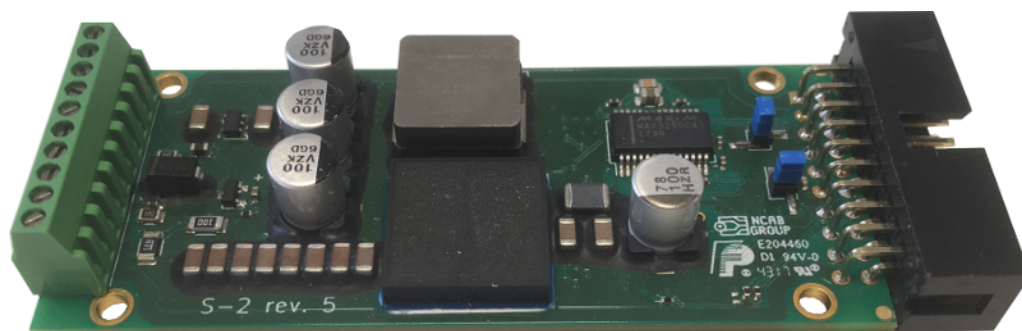
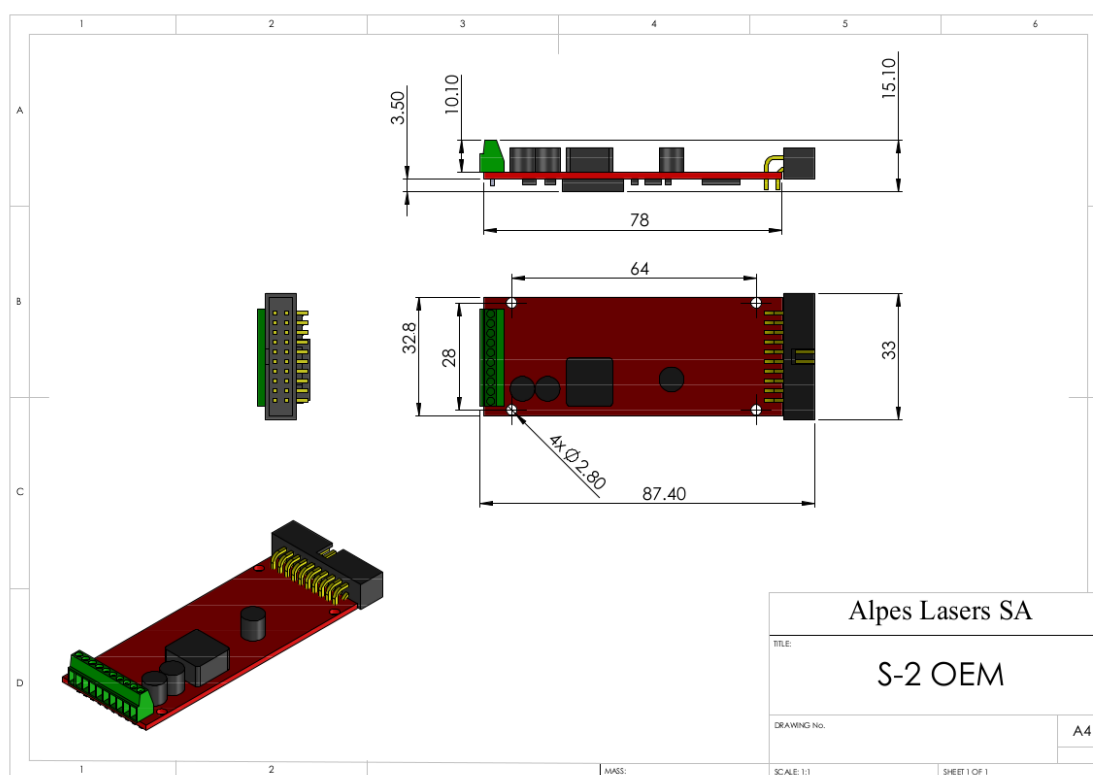

Figure 6.10.: S-2 pulser bare configuration.
Figure 6.15.: S-2 driver in OEM configuration (protective box also available).
- as a bare circuit, as shown in Fig. 6.10 (see technical drawing in Fig. 6.15), to be integrated in the customer's device;